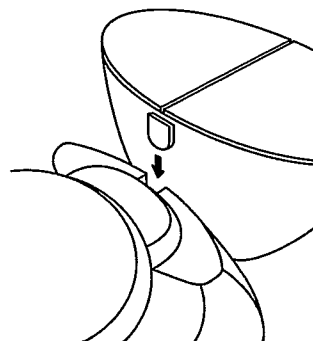

Figure 5
7. Return the Water Reservoir back into the Base by slipping the hook on the side of the Water Reservoir into the slot located on the Coffee Maker Base. (See Figure 5.)